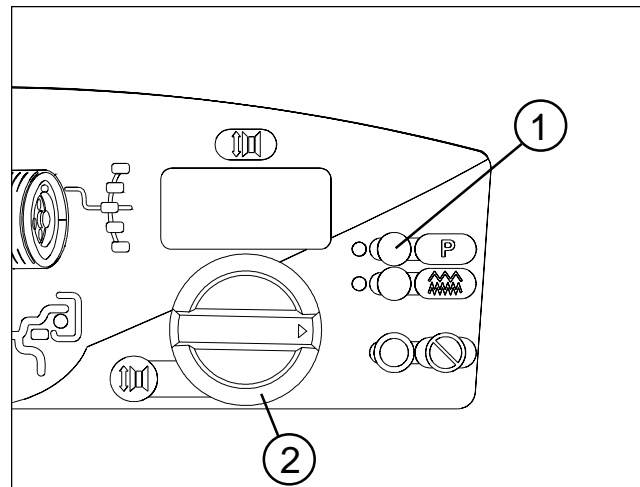

Figure 25
**1. Activate Calibration Verification.** Press and hold the **P** button (#1 Fig 25) while turning the *Diameter/Function* Knob (#2 Fig 25) until the display reads "P" "14".